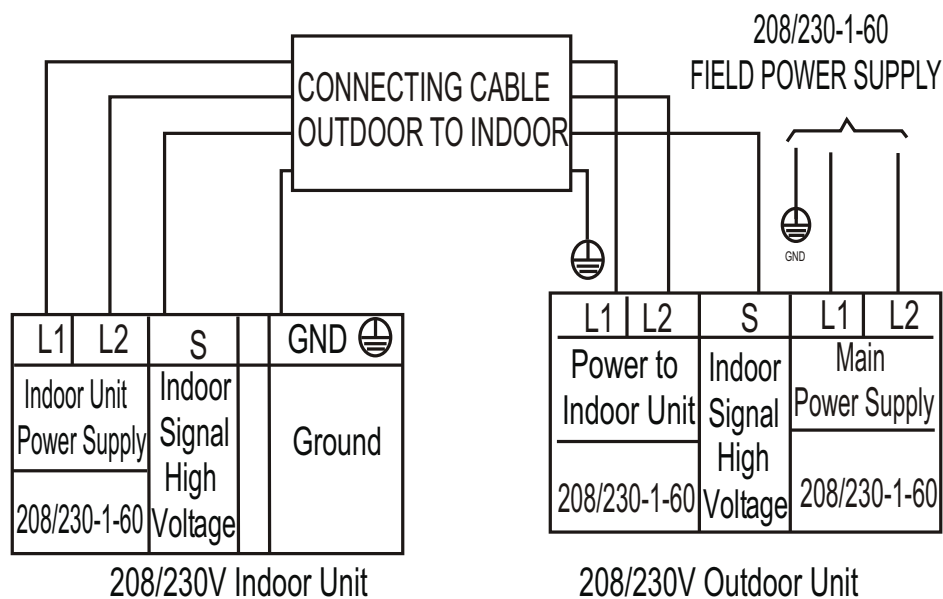

Fig. 14 —Connection Diagram
3. Fully open the low side of manifold gage (see Fig. 14).